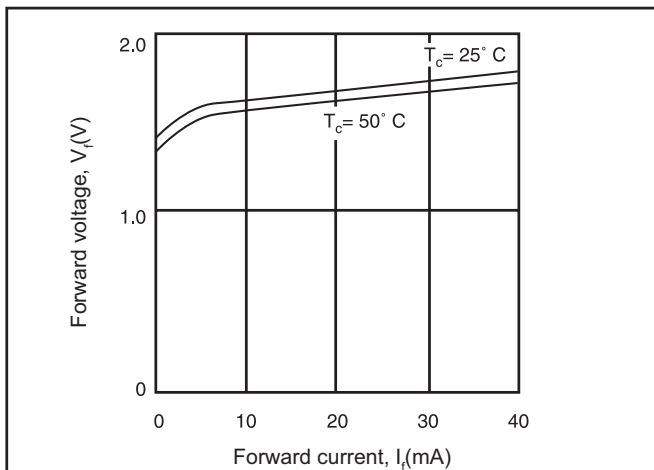

Figure 4. The V/I curve.
*The V/I Curve.* The voltage drop across the laser is often acquired during electrical characterization. This characteristic is similar to the analogous characteristic of any other type of semiconductor diode and is largely invariant with temperature, as depicted in Figure 4. (Note: Diode laser manufacturers usually place the forward voltage on the X axis, in compliance with conventional practice in the electronics industry for other types of diodes. Companies manufacturing instrumentation to characterize diode lasers often present the curve in the manner of Figure 4, with the forward current on the X axis. Thus, other performance curves – as will be described in later sections – may be overlaid onto the V/I curve. Conventional electronics people would call this an I/V curve, rather than accept our nomenclature of a V/I curve). The typical voltage drop across a diode laser at operating power is 1.5 volts. V/I data are most commonly used in derivative characterization techniques.